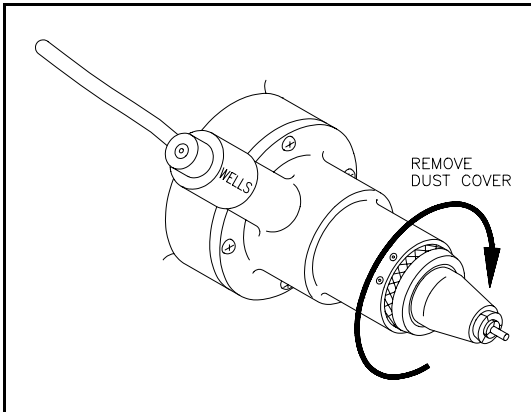

Figure 2
- 2.1 Remove the knurled dust cover by rotating **CLOCKWISE**. See Figure 2. It has **left-hand threads**.